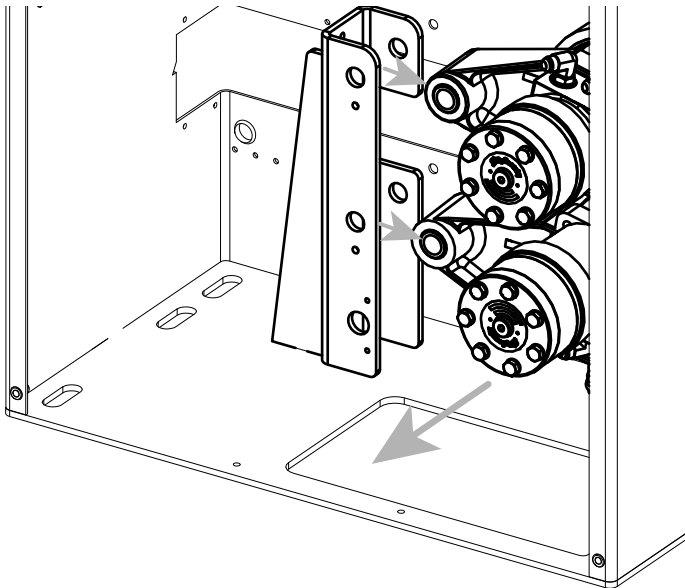

Figure 6. Remove Pivot Arm Assembly
8. Slide the two pivot arms and motors out as a complete unit (Figure 6).